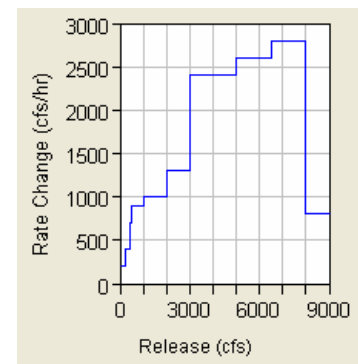

Figure 11.75 Step
- **Step Interpolation** (Figure 11.75) will cause the program to interpret the table as a step function curve, where the dependent value (i.e., the y-value) in each row hold constant until changed by the next row.